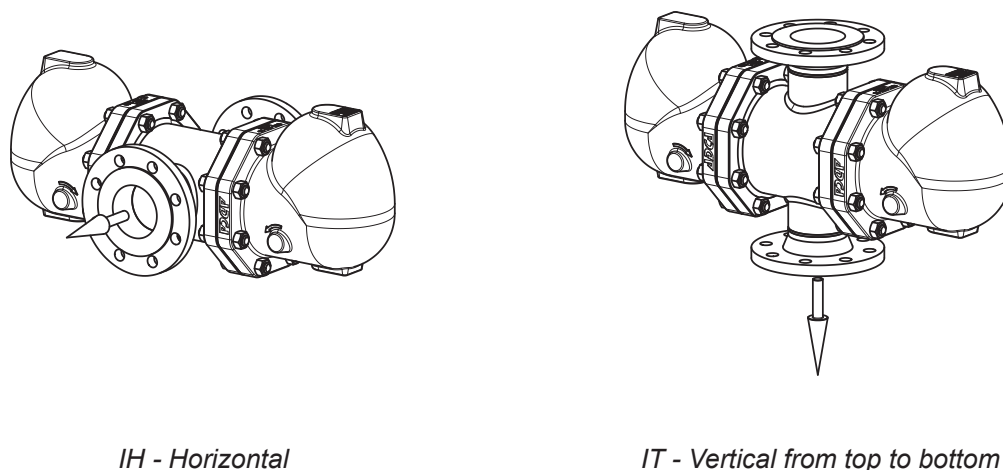

Fig. 2 - Flow direction options for steam traps with inline connections.
1. Undo the nuts (10A) gradually in a crisscross pattern and separate the cover (2) from the body (1).
2. Remove the body gasket (3), unscrew the bolts (4A), remove gasket (5) and mechanism assembly (4, 6, 7, 8, 9).
3. Clean body (1) and cover (2) surfaces thoroughly, leaving no remaining graphite leftovers.
4. Rotate the body (1) to meet the desired flow direction according to Fig. 2.
5. Fit a new gasket (5) and place the mechanism assembly (4, 6, 7, 8, 9) on the body (1) with the automatic air vent (9) pointing upwards.
6. Secure the seat (4) by tightening the bolts (4A) with the recommended torque – see section 9.5 – Tightening torques.
7. Fit a new body gasket (3) and install the cover (2) with the protruding section pointing upwards.
8. Apply a suitable lubricant to the threads of the studs (10), and tighten the nuts (10A) gradually in a crisscross pattern until the recommended torque is achieved – see section 9.5 – Tightening torques.
2. The steam trap can be installed in any of the positions shown in Fig. 2.